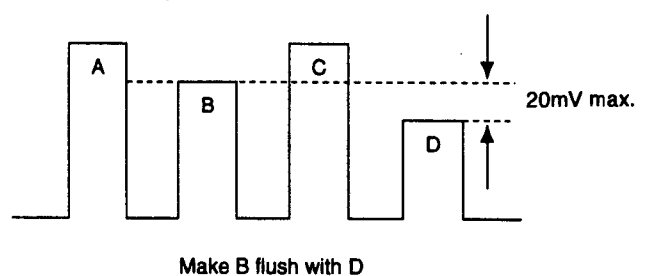

Fig. 5-14
3. Connect the probe of an oscilloscope to IC404 ④ PIN or TP402.
5. Adjust **SUB CHROMA SMPTE** so that the levels of B and D will be the same. (Fig.5-14)